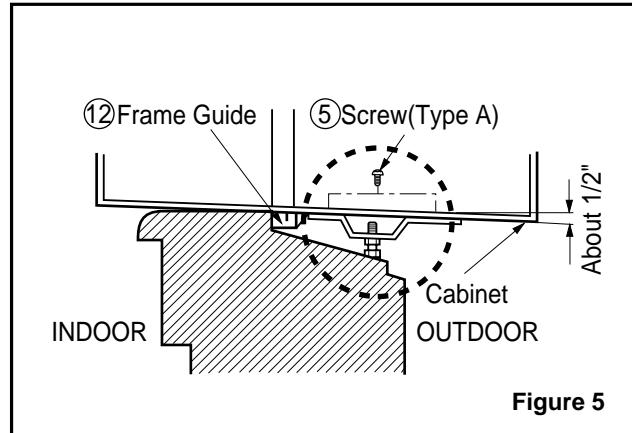

Figure 5
5. Attach the sill support to the cabinet track hole in relation to the selected position using 2 Type A screws in each support (See Figure 5).